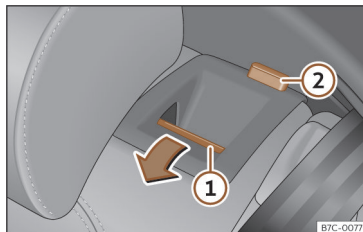

Fig. 81 Rear seat: folding down the backrest.
- Press the unlock button >>> **Fig. 81** **1** forwards and at the same time fold the backrest down. The rear seat backrest is not engaged when the red marking of the button **2** is visible.